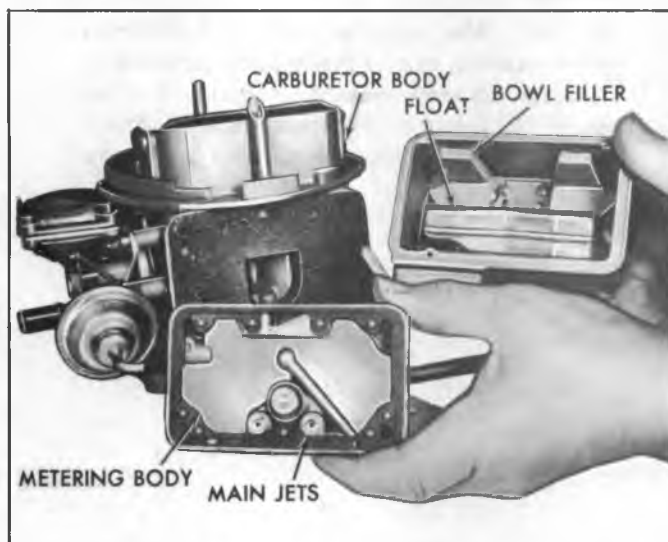

Fig. S11--Fuel Bowl Assembly
- On primary bowl install bowl filler before float installation (Fig. S11).